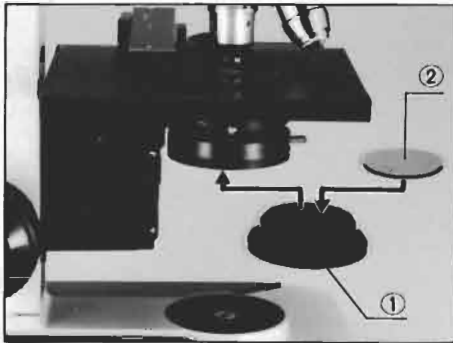

Fig. 6
Slip the blue filter (32.5mm dia.) ② into the filter holder ①. (Fig. 6)
Insert the filter holder ① into the condenser from below. (Fig. 6)